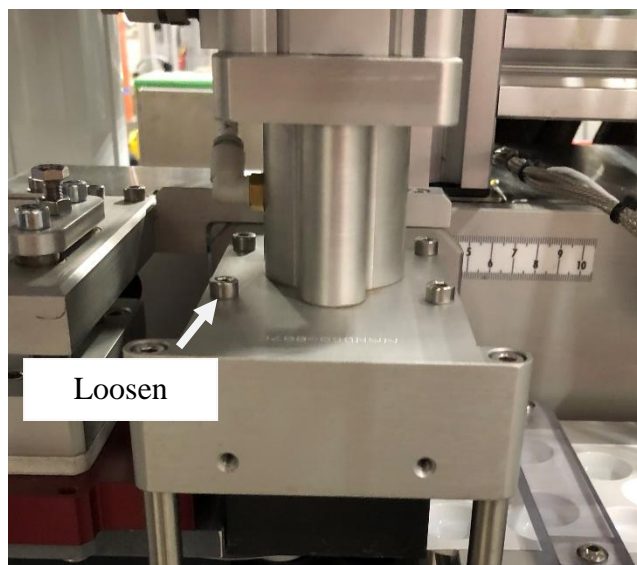

Figure 8
- Loosen (4) screws mounted on upper forming station housing.
- Make sure orientation of upper die matches lower die before mounting (Figure 8)